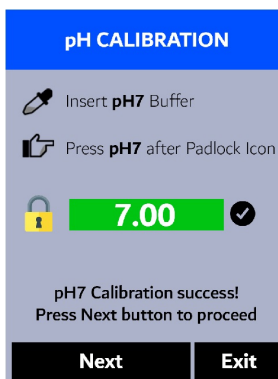

Figure 44.
9. If the calibration succeeds, a checkmark (  ) and a "pH7 Calibration success!" message will appear (Figure 44). Otherwise, a warning message is displayed.